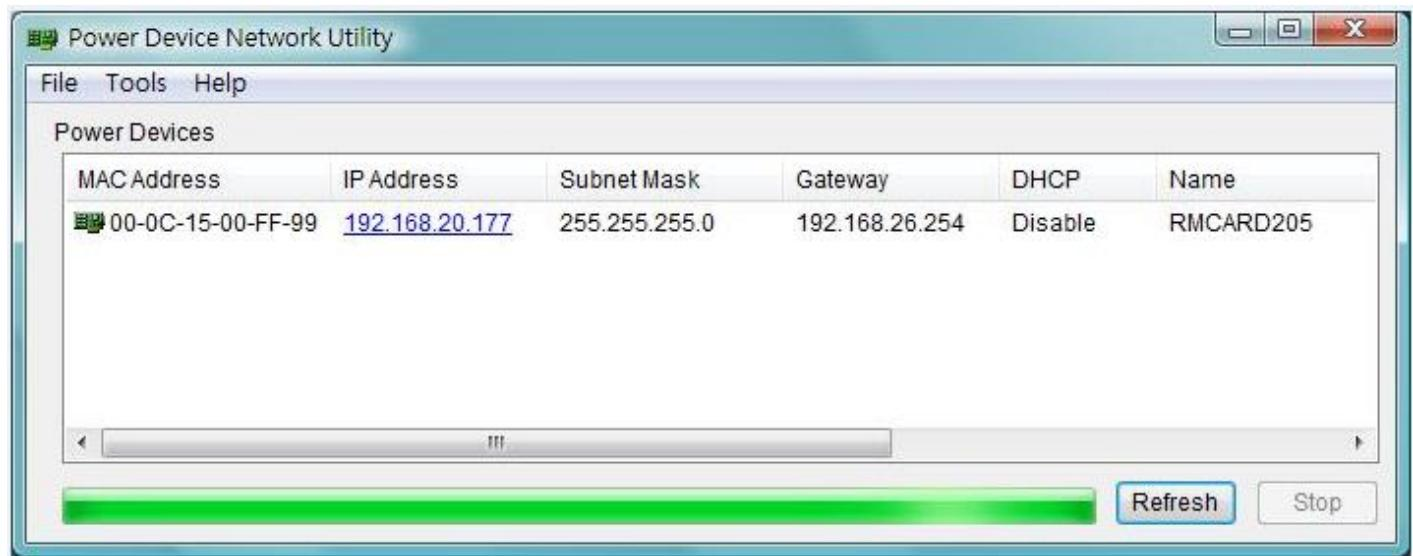

Figure 1. The main window of the “Power Device Network Utility” program.
3. The main dialog of the Power Device Network Utility program is shown in Figure 1. The configuration tool will display all CyberPower Remote Management devices present on the same network subnet. The “Refresh” button is used to search the local network subnet again.